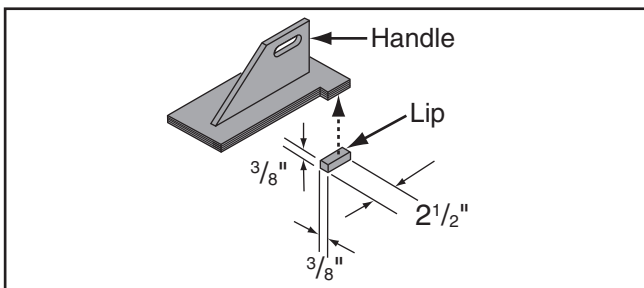

Figure 108. Push block and lip.
- Pre-drill and countersink three holes through the bottom center of the base, then attach the handle to the base with #6 x 1/4" wood screws (see **Figure 108**).
- Make a lip from scrap wood that is approximately 2 1/2 x 3/8 x 3/8", then fasten this piece to the bottom of the base, as shown in **Figure 108**.